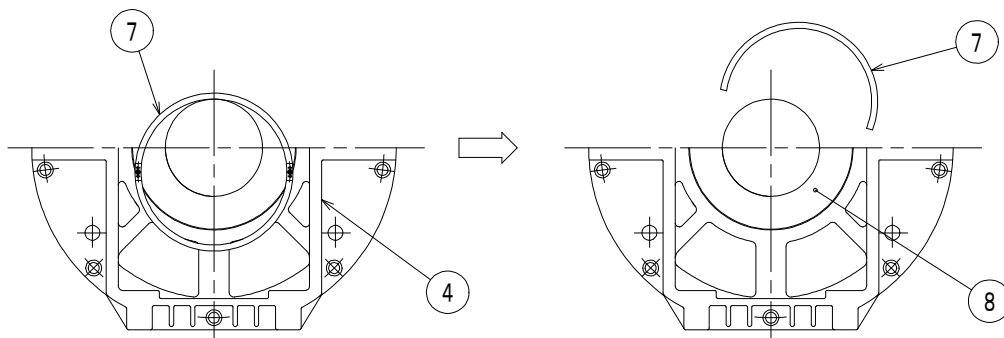

Fig. 6
- (1) Screw eye-bolts into bearing shell upper half ⑥.
- (2) Pass wire rope through the eye-bolts and lift the bearing shell upper half vertically. Take care not to damage the metal while removing the bearing shell, and be sure to place the removed bearing shell on protective wood blocks, not directly on the floor.
- (3) Move the bearing shell slowly, and absolutely avoid crash drop.
6.2.4 Disassembly of oil ring (see Fig. 6)